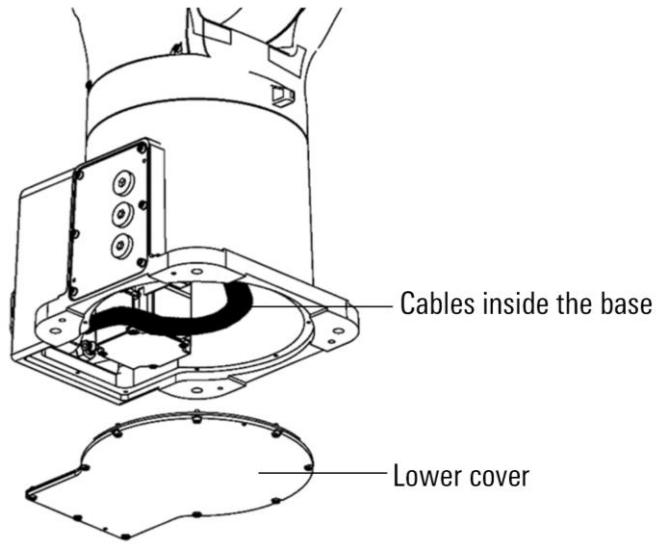

Figure 12-1 Overhaul of cables inside the base
- Step1. Remove the cover plate, as shown in Figure 12-1, to observe the internal cables of the base.